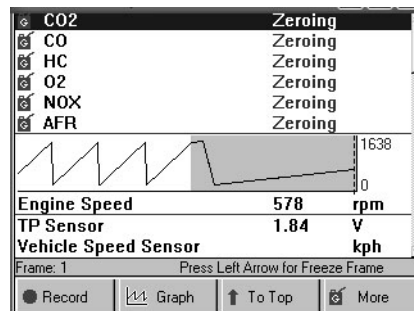

Figure 6.3: Gas and Data Display
- 4 Follow the instructions on the screen and then press the **OK** function key. This “zeros” the gas module and then displays the live data readings (Figure 6.3).